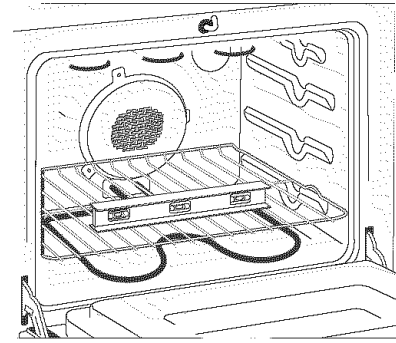
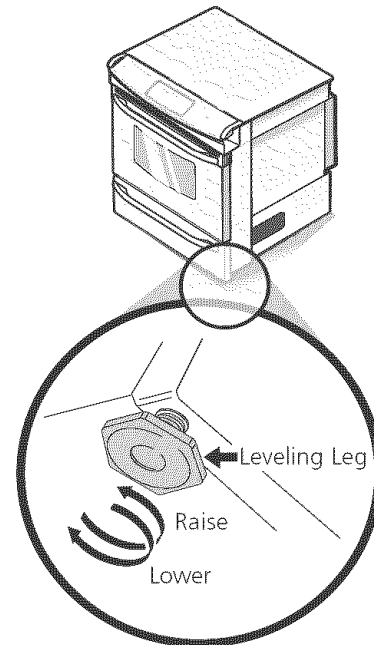

Figure 8
Figure 13
10. **Level the range** (see section 5). The floor where the range is to be installed must be level. Follow the instructions under "Leveling the Range-Models Equipped with Leveling Legs" (figure 8)
3. Check if the range is level by installing an oven rack in the center of the oven and placing a level on the rack (Figure 8).
2. Place a level on the rack (see figure 8). Take 2 readings with the level placed diagonally in one direction and then the other. Level the range, if necessary, by adjusting the 4 leg levelers with a wrench (see Figure 13).
4. Level range if necessary, by adjusting 4 leg levelers with wrench. (See Figure 13 below.) A minimum clearance of 1/8" (0.8 cm) is required between the bottom of the range and the rear leg levelers to allow room for the anti-tip brackets.